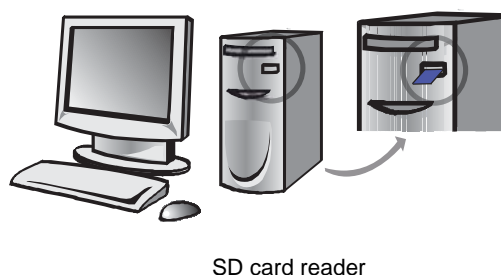

Figure 4
- Insert the SD card in the SD card reader on the PC (see **Figure 4** below)